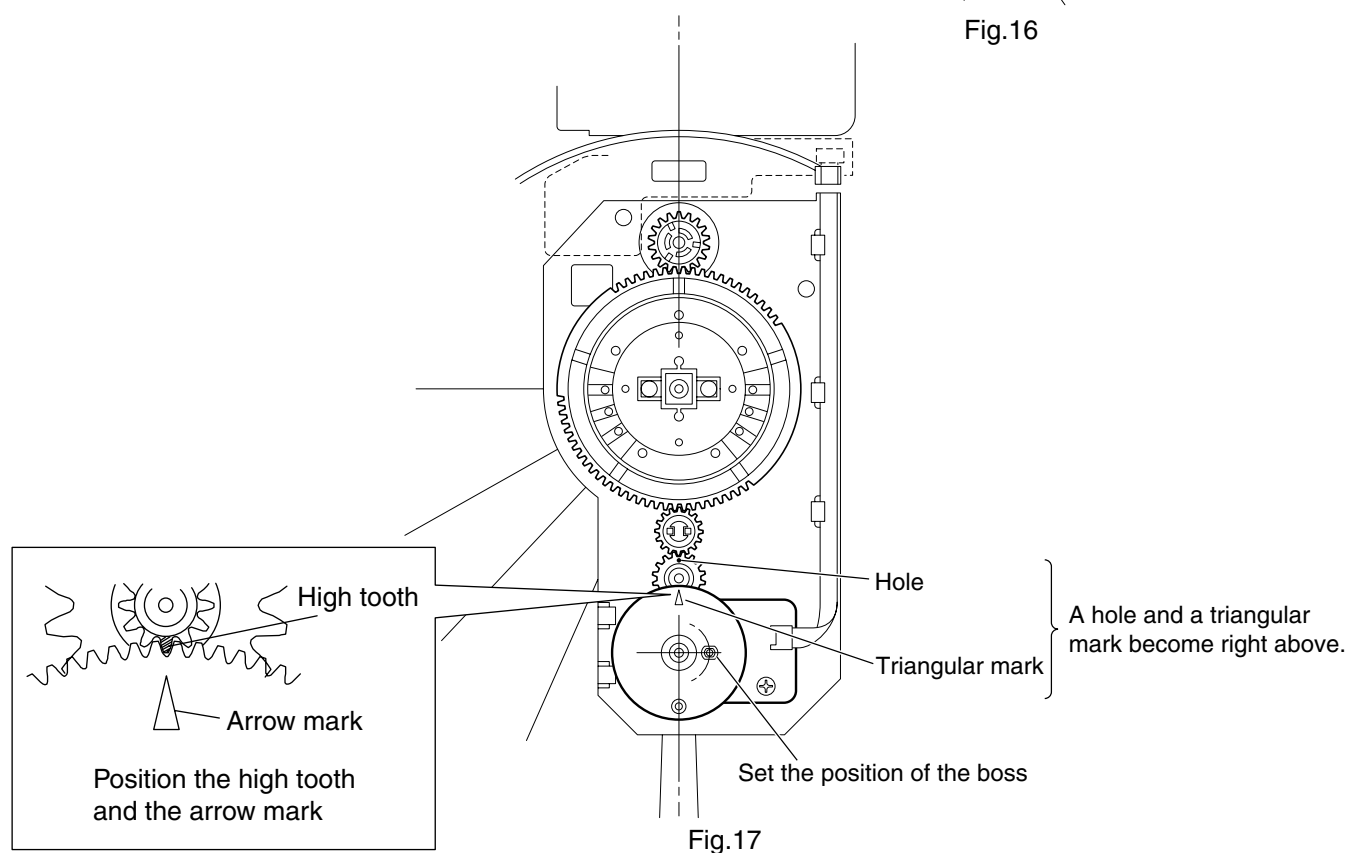

Fig.17
CAUTION: When reattaching the cam gear (2), set the position of the boss and the triangular mark and hole as shown in Fig.17.